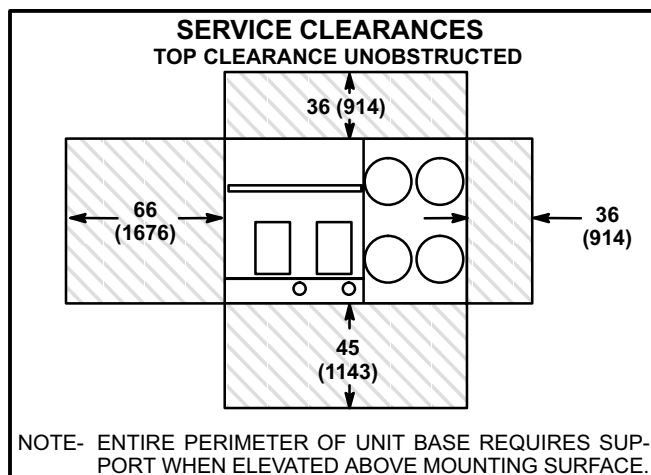

FIGURE 1
The LHA unit is ETL certified for outdoor installations only at the clearances to combustibles listed on unit nameplate and in figure 1.
The LHA unit is Canadian Gas Association (C.G.A.) certified as a heat pump with cooling and with or without auxiliary electric heat for non-residential use only at the clearances to combustible materials as listed on the unit nameplate and in figure 1.
- 2- Specified installation clearances must be maintained when installing LHA units. Refer to figure 1.